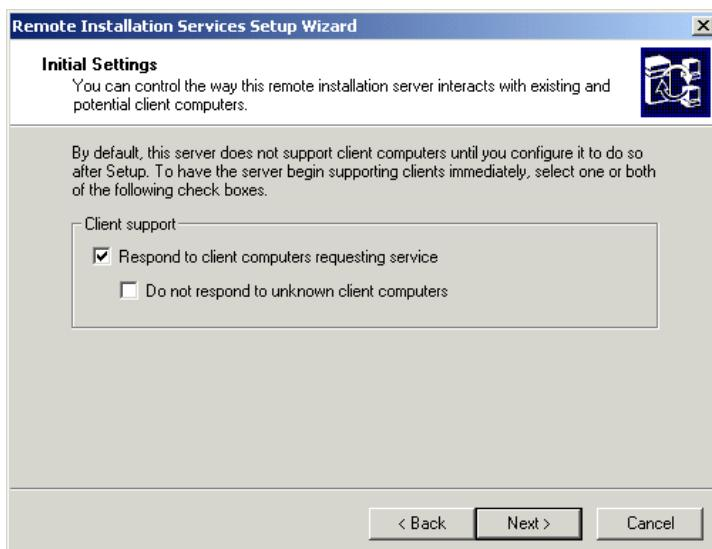

Figure 4-3 Settings for RIS-installation
- 10. Select **Respond to client computers requesting service** (Figure 4-3) and click **Next**.